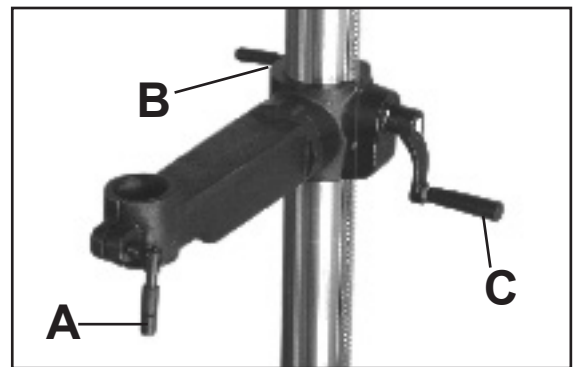

Figure 17
2. Tighten the locking lever (A-Fig. 17) onto the table support bracket (B-Fig. 17) and install the table raising/lowering handle (C-Fig. 17).